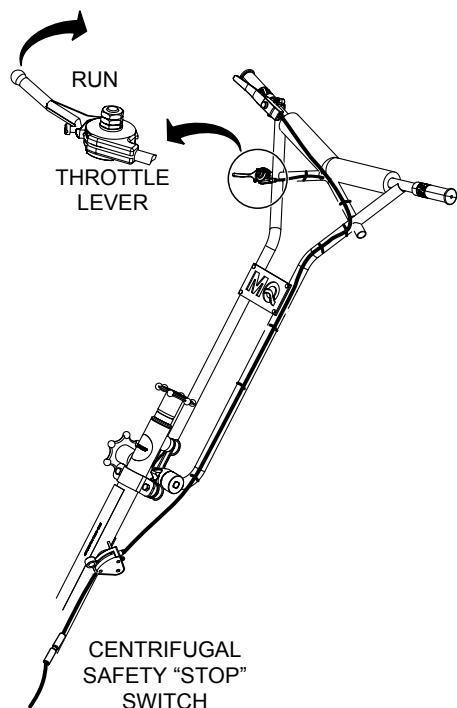

Figure 27. Throttle Lever (Run)
1. To begin troweling, push the throttle lever (Figure 27) forward to the "**RUN**" position.